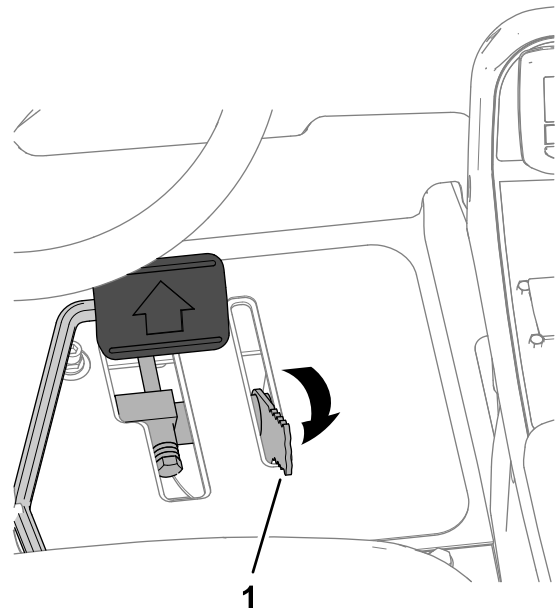

Figure 38
3. Move the lever for the mow-speed limiter rearward to the TRANSPORT position (Figure 38).